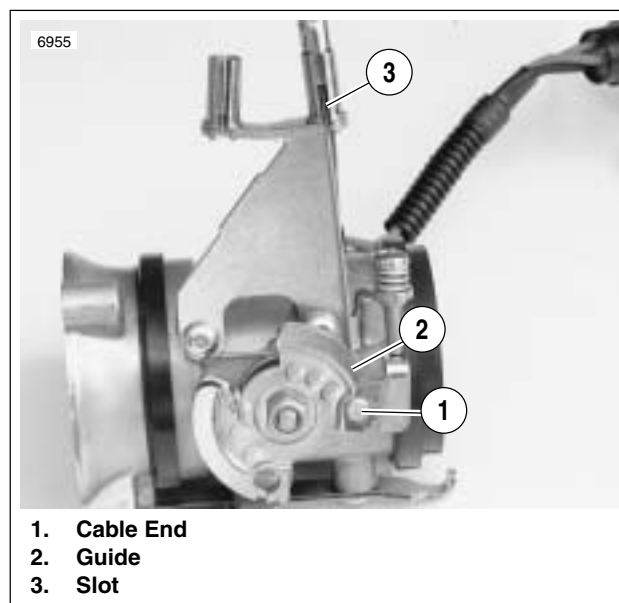

Figure 4-105. Idle Control Cable Installation
3. See Figure 4-105. Attach both throttle cables. Add free-play to cables if necessary.
- a. With the throttle body close to the right side of the bike but not fully installed, place idle control cable end (1) into hole on guide (2). Wrap the cable into the channel.
- b. Place the end of the cable housing into the bracket by sliding the cable through the slot (3). Adjust the cable so it will not dislodge from the bracket.